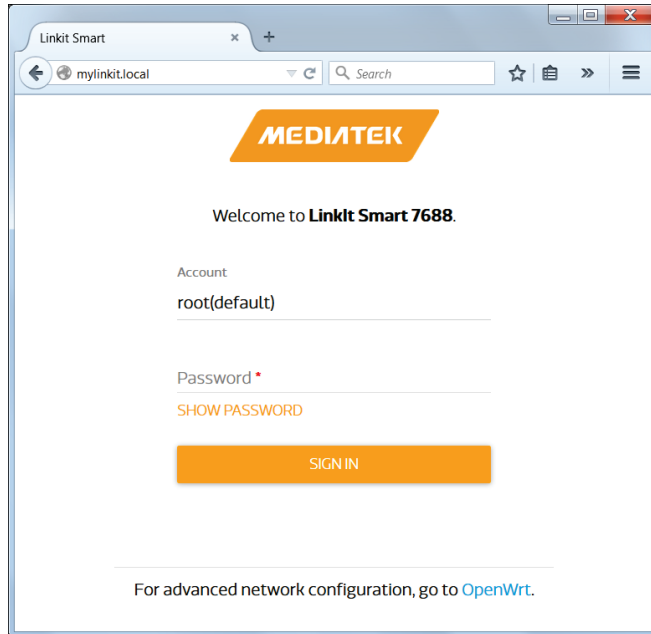

Figure 13 LinkIt Smart 7688 Web UI Sign In
- 4) Open a web browser and type **http://myLinkIt.local** in the URL box. The Web UI page opens as shown in Figure 13.